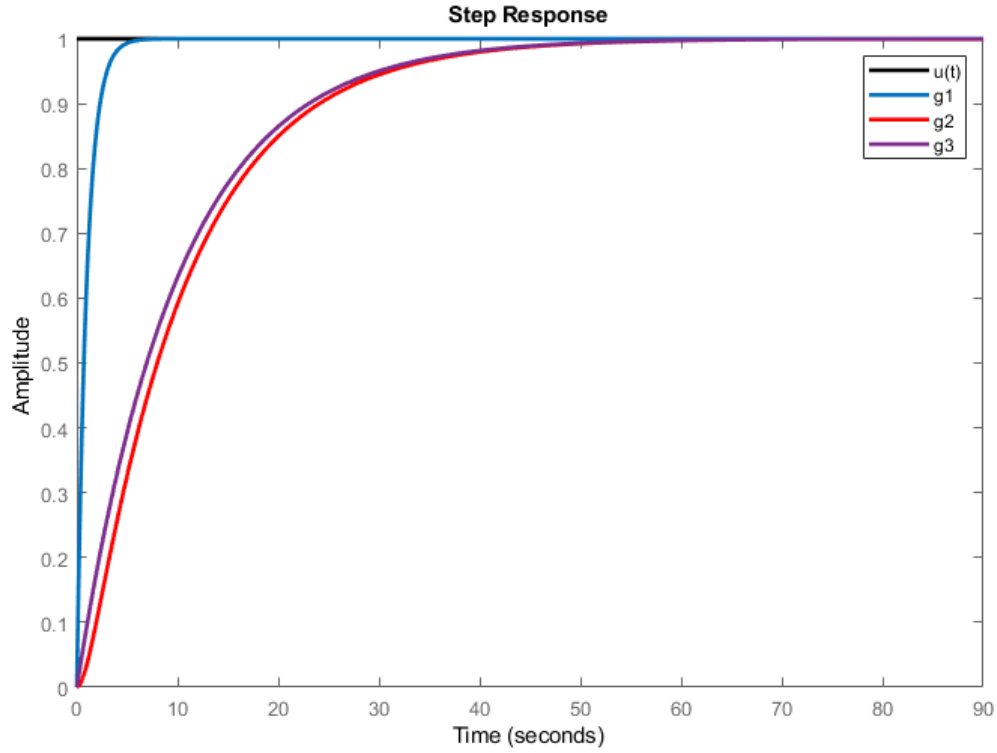

Figure 1: Step Responses of Bare(G_1) and Sheath(G_2) Thermocouples
Step responses of bare(G_1) and sheath(G_2) thermocouples and the zero time constant approximation for sheath thermocouple(G_3) can be seen at *Figure 1*.
4. It stated that that the time constant of the bare thermocouple is usually much smaller than the one caused by sheathing. Therefore, one may approximate the overall transfer function as a first order one as can be interpreted from the *Figure 1*.